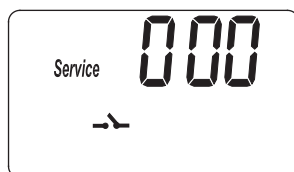
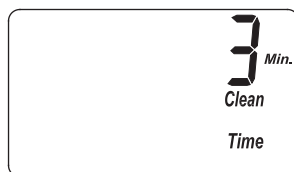
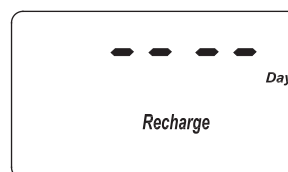
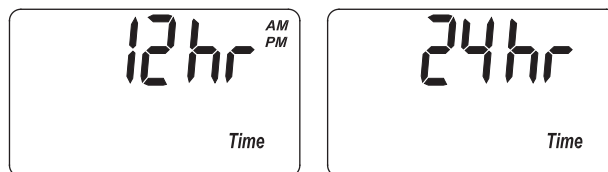

FIG. 32
FIG. 33
FIG. 34
FIG. 35
1. Press and hold the PROGRAM button until the screen in Figure 32 is displayed. Once in this display, press the PROGRAM button three times and the display in Figure 33 is shown.
1. Press and hold the PROGRAM button until the screen in Figure 32 is displayed. Once in this display, press the PROGRAM button four times and the display in Figure 34 is shown.
1. Press and hold the PROGRAM button until the screen in Figure 32 is displayed. Once in this display, press the PROGRAM button five times and one of the two displays in Figure 35 is shown.